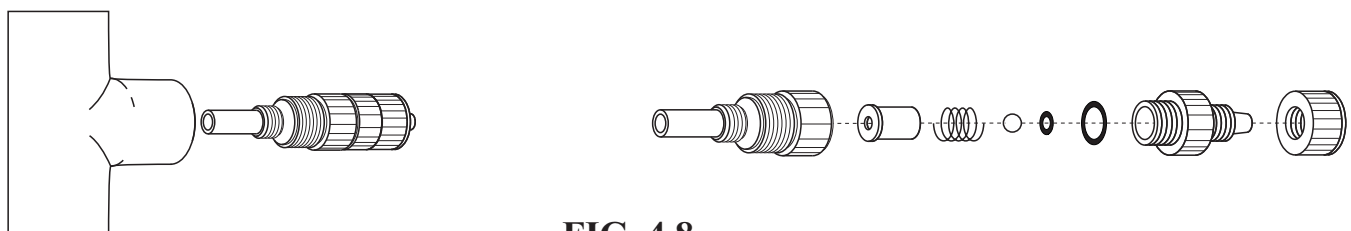

FIG. 4.8
- ✓ Periodically clean the injection/check valve assembly, especially when injecting fluids that calcify such as sodium hypochlorite. These lime deposits and other build ups can clog the fitting, increase the back pressure and interfere with the check valve operation. See section 4.3.4. Fig. 4.8.